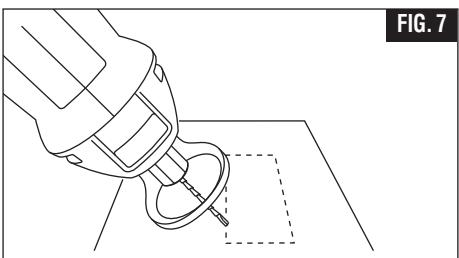

FIG. 7
**Step 3:** While holding the tool firmly, insert the bit into the material at a 45° angle (Fig. 7).